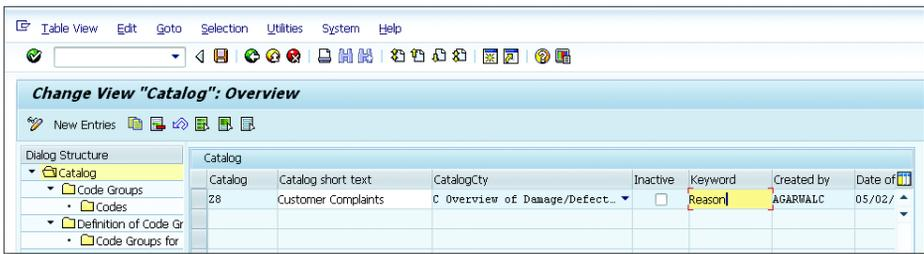
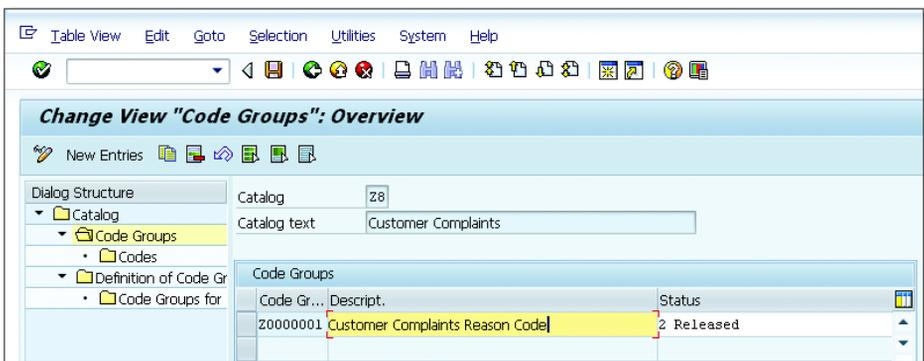

Figure 4.103 Defining Code Group Profiles
Figure 4.104 Code Group Assignment to the Catalog
- To define the code group profiles, go to SPRO • CRM • BASIC FUNCTIONS • CATALOGS, CODES AND PROFILES • DEFINE CODE GROUP PROFILES. Assign the code group profile to the Z8 catalog, as shown in Figure 4.103 and Figure 4.104.